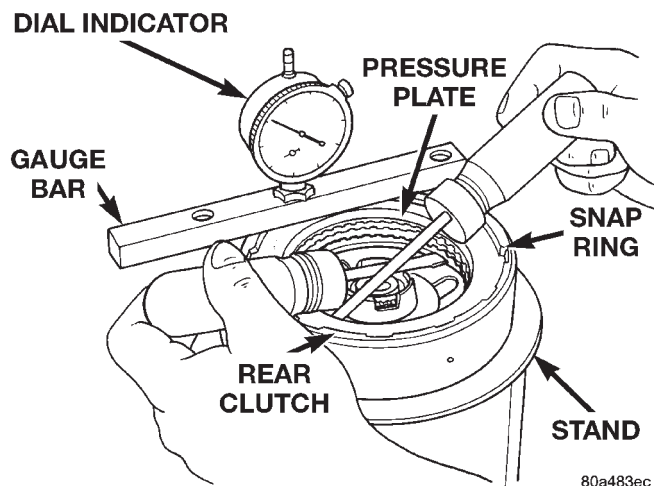

Fig. 160 Checking Rear Clutch Pack Clearance
(13) Install top pressure plate.
(14) Install selective snap ring. Be sure snap ring is fully seated in retainer groove.
(15) Using a suitable gauge bar and dial indicator, measure clutch pack clearance (Fig. 160).
(a) Position gauge bar across the clutch drum with the dial indicator pointer on the pressure plate (Fig. 160).